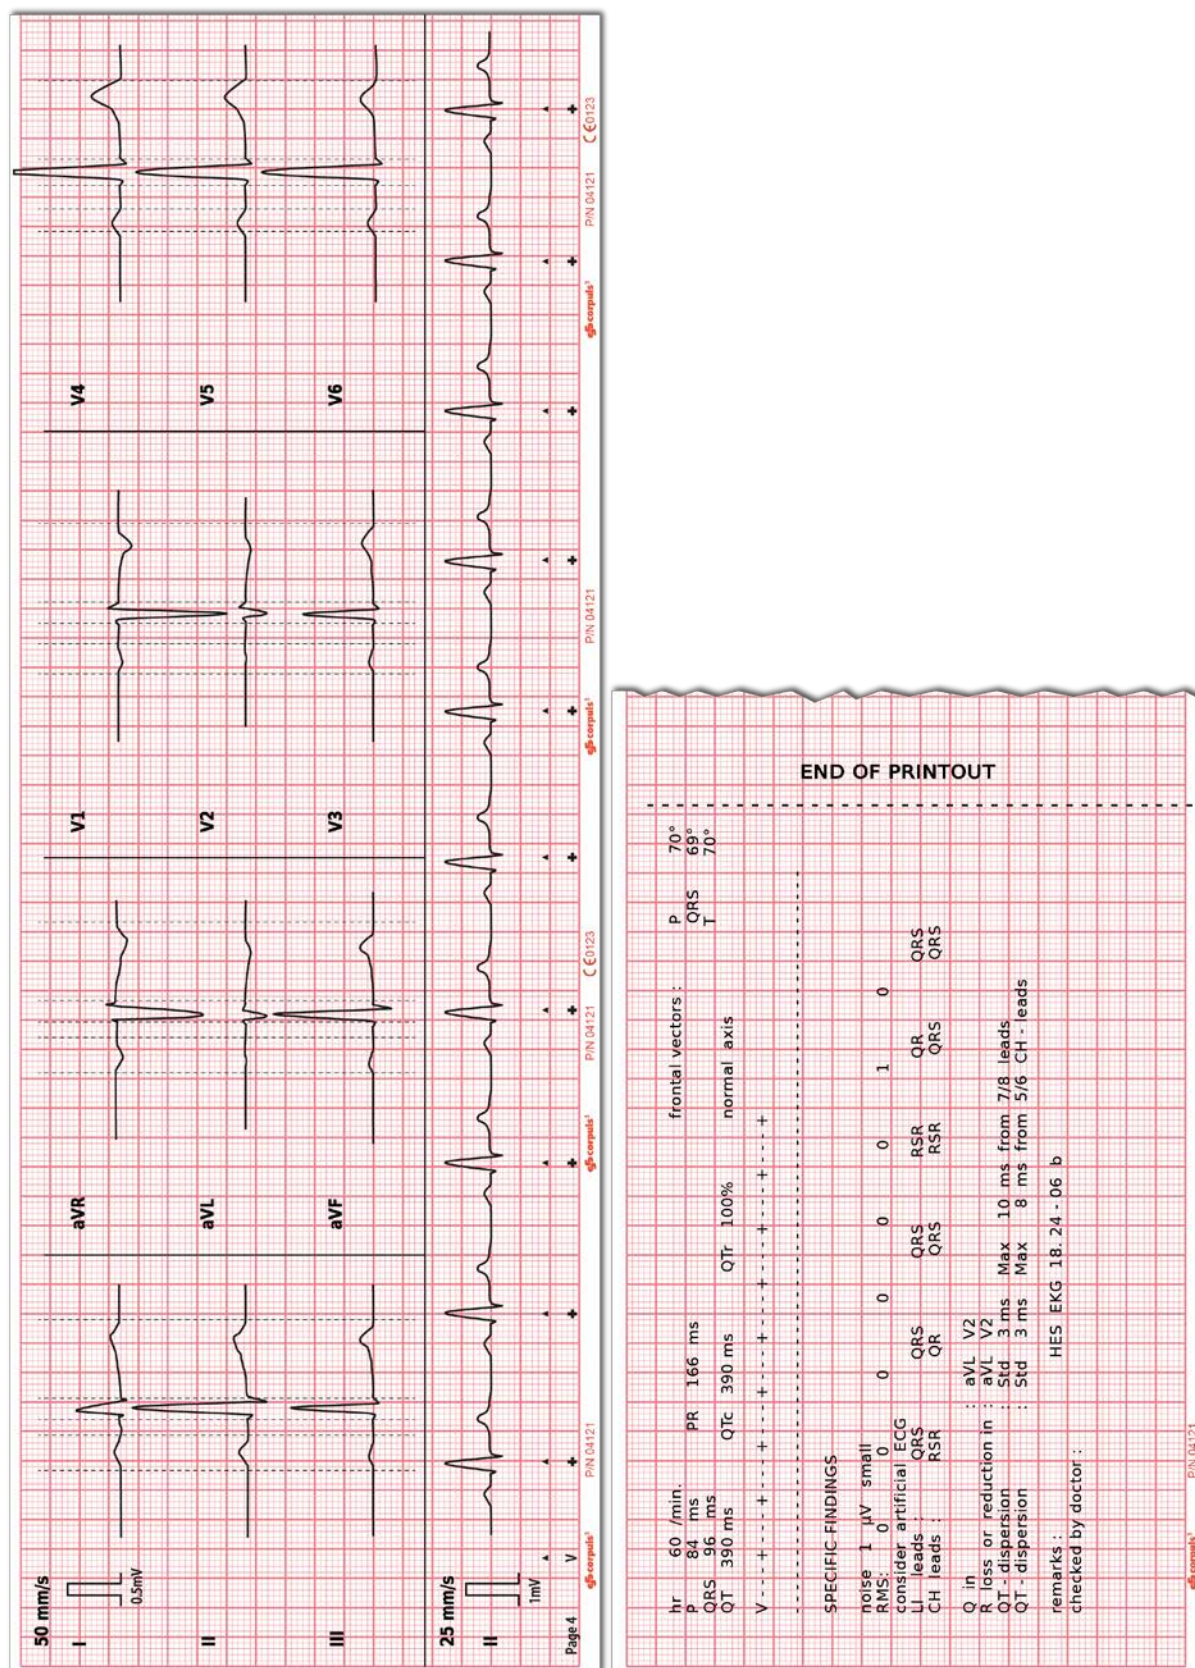

Fig. 6-13 D-ECG printout of the representative cycle with HES® Light (illustration may differ)
For the plausibility check of the conclusions about the rhythm and as an aid for the quality check, the ECG measurement/interpretation program **HES®** issues a rhythm- and typing diagram that represents the cycle sequence of the ECG complexes in an abbreviated form (see page 123, Fig. 6-13, item 1).